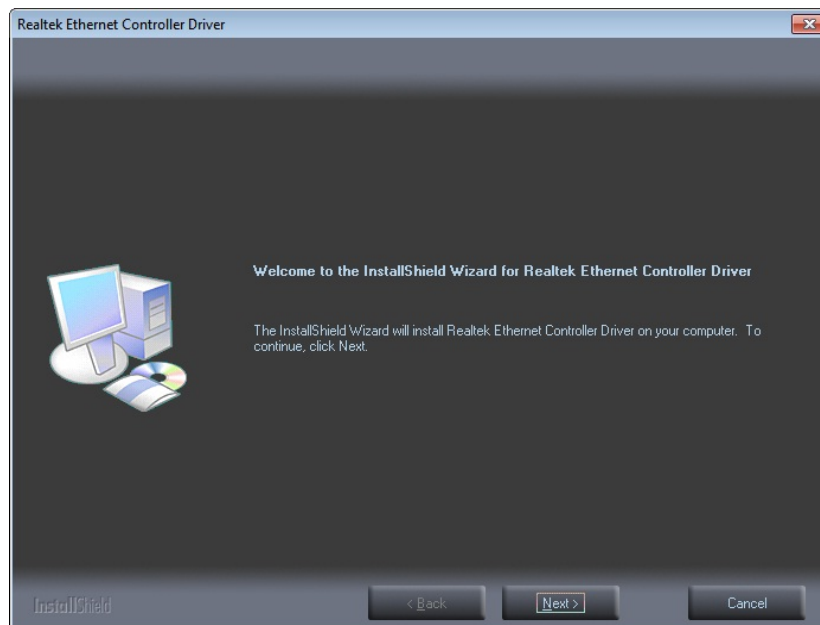

Figure 6-13: LAN Driver Welcome Screen
Step 5: The **Welcome** screen in **Figure 6-13** appears.